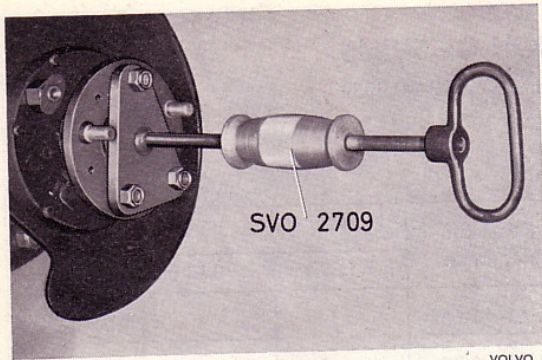

Fig. 18. Removing drive shaft
4. Unscrew the bolts for the brake backing plate and retainers. These are loosened through the hole in the drive shaft flange (yoke). Turn the brake backing plate backwards so that the handbrake bracket runs free from the flange on the drive pinion carrier. Pull out the drive shaft with puller SVO 2709, see Fig. 18.
the hole in the drive shaft flanges. Pull out the drive shafts with puller SVO 2709, see Fig. 18.